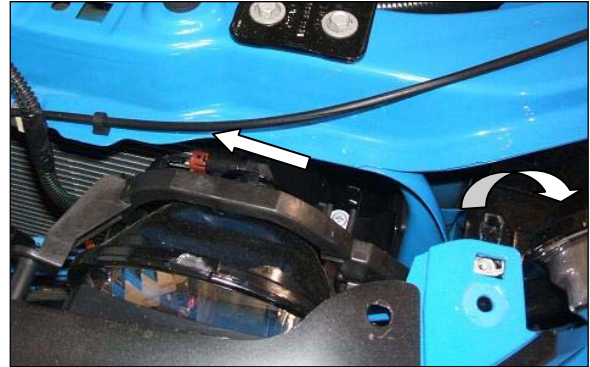

Figure 6
6. Lift the two (2) upper fascia mounts from the pins on the headlamp assemblies and slightly pull the upper Grille forward to disconnect the left and right fog lamp connectors. Refer to Figure 6. When complete, return the upper fascia mounts to the pins on the head lamp assemblies.